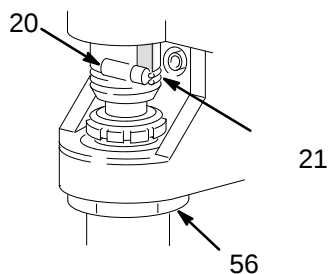

Fig. 24
5. Use a screwdriver to push aside the retaining spring (21) at the top of the pump. Push the pin (20) out the rear. See Fig. 24.
6. Push the retaining spring (21) up. Push the pin (20) out the rear.